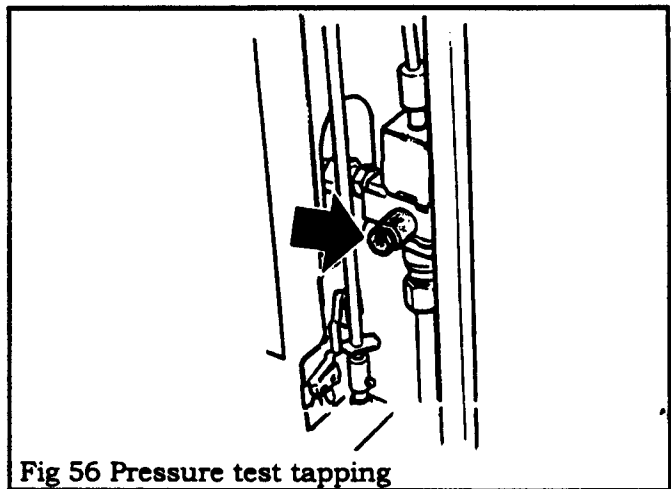

Fig 56 Pressure test tapping
15.10 A built-in non-adjustable regulator controls the burner manifold pressure. The correct pressure range is shown in the table in section 2 of this manual. The manifold pressure should be checked at the pressure test tapping which is located on the thermostat unit (see figure 56). The pressure check should be made with both burners alight, the ignition bar set at "burner on" (turned to the right) and the thermostat control set at "HI". See lighting instruction section for full operation details.